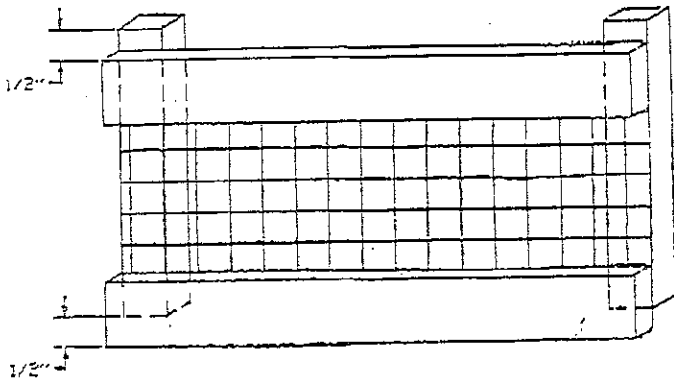

Figure 4: Corner post offset
4. Nail the 9-inch wall pieces from step 2 to the 9-inch corner posts such that it is offset by 1/2 -inch; pilot holes may be required (See Figure 4). This will result in a stackable section that is 3-feet 1-inch x 3-feet 1-inch x 9-inches in height. The offset corner posts will lock the frames in place.